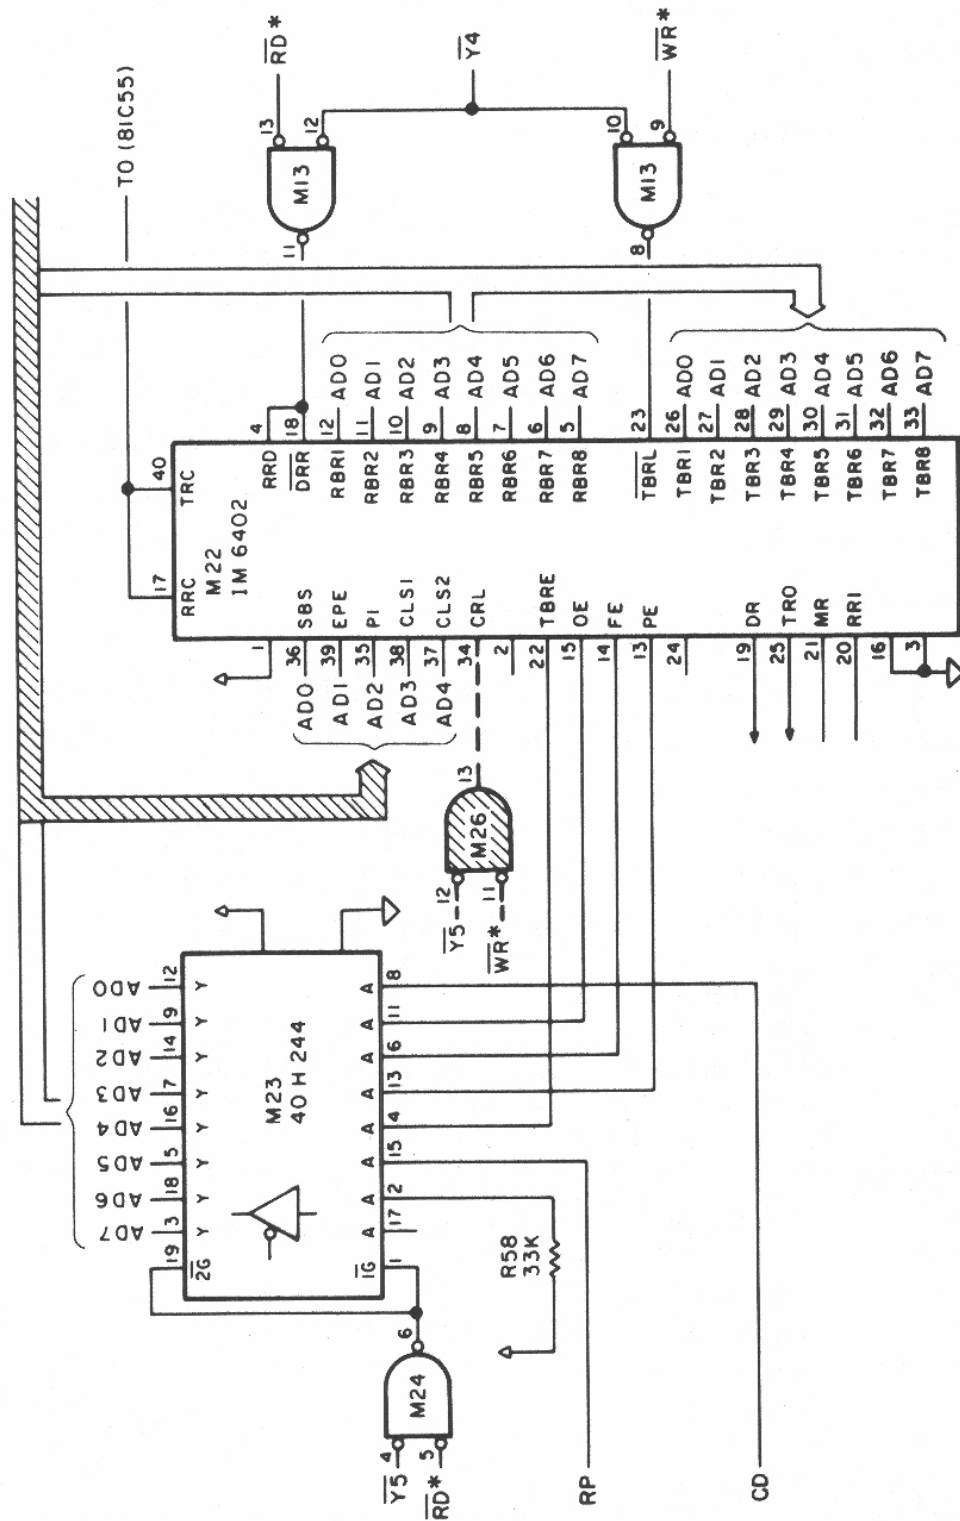

Figure 7.3. UART programming
The UART parameters, namely word length, parity, and stop bit selection, are all loaded by the CPU through output port D8, which is listed in table 7.2 and shown in figure 7.3. Actually, any port number in the range D0 (decimal 208) to DF (223) will do.